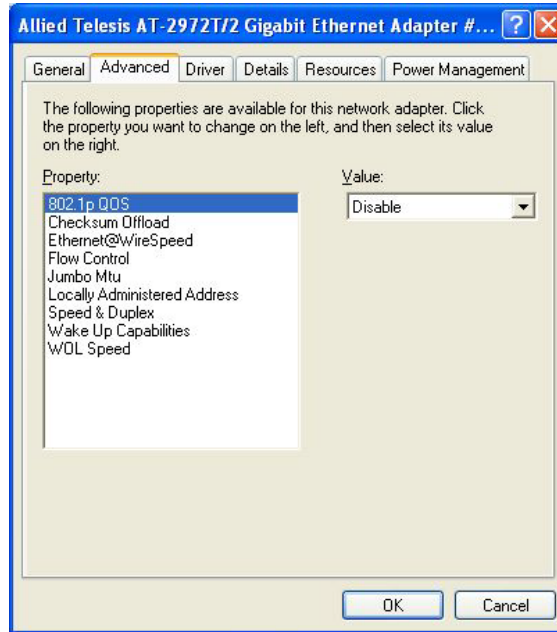

Figure 21. Advanced Tab
The Advanced tab is shown in Figure 21 on page 56.
2. Click the **Advanced** tab. The Advanced tab is shown in Figure 21 on page 56.